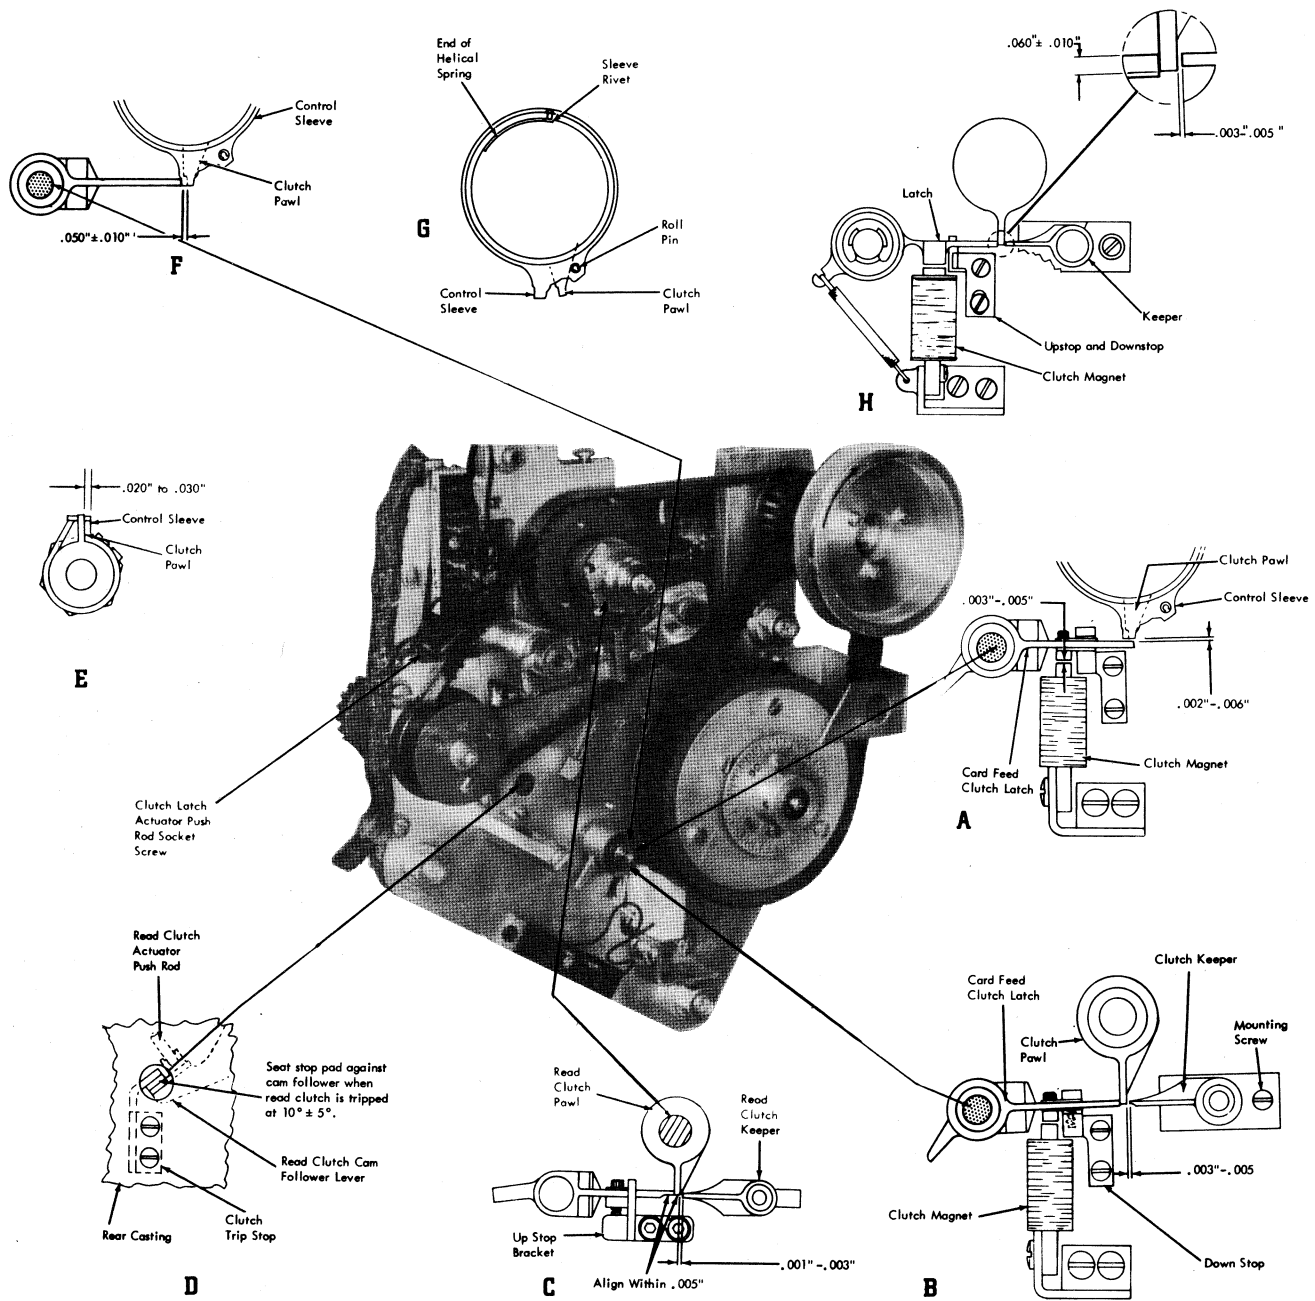

Figure 4-4. Card Feed Clutch and Read Clutch Adjustments
1. With clutch latch arm seated against down stop, adjust down stop, by means of the mounting screws, for a .002" to .006" clearance between clutch latch and clutch control sleeve arm (Figure 4-4, Insert A). When making this adjustment, downward travel of latch armature assembly should strike the downstop; not the magnet cores.
2. With clutch latch seated against down stop, position clutch magnet assembly for .003" to .005" clearance between magnet core and clutch latch arm (Figure 4-4, Insert A).
3. With card feed clutch latched, use mounting screw to position clutch keeper for .003" to .005" clearance between keeper and clutch pawl (Figure 4-4, Insert B).
slowly by hand to unwind the clutch spring (Figure 4-4, Insert F).
1. Position upstop for .060"  $\pm$  .010" overlap of the clutch latch on the clutch pawl (Figure 4-4, Insert H).
5. Adjust clutch spring clamp for .050"  $\pm$  .010" clearance between clutch pawl and end of the clutch latch. The CF clutch spring clamp is fastened to the clutch pawl by two screws. When making this adjustment, the arm on the control sleeve should be in contact with the end of the clutch latch, and the clutch keeper should be pivoted out of contact with the clutch pawl. The clutch input pulley (pulley hub if pulley is removed) should also be rotated slowly by hand to unwind the clutch spring (Figure 4-4, Insert F).
2. Slip control sleeve over helical spring and position sleeve so that roll pin follows and is in contact with clutch pawl (Figure 4-4, Insert G).
10. Run machine for about five minutes, then check the .050" clearance between clutch pawl and clutch latch (Figure 4-4, Insert F). Readjust if necessary.
1. With CF and read clutches latched, position read clutch up-stop bracket so end of the shock mounted section of the latch is aligned within .005" to bottom surface of clutch pawl (Figure 4-4, Insert C).
mounting nut, to obtain a .001" to .003" clearance between keeper and clutch pawl (Figure 4-4, Insert C).
3. With CF and read clutches latched, turn read clutch latch actuator push rod socket screw until read clutch latch just starts to move, then back off screw 1/2 turn. Trip CF clutch and turn CF clutch shaft by hand. Observe time on CF index when read clutch engages. It should be  $10^{\circ} \pm 5^{\circ}$ . If it is not, recheck adjustment No. 1. If adjustment No. 1 checks remake clutch push rod socket screw adjustment (Figure 4-4, Insert D).
4. Adjust the read clutch cam follower stop pad to seat against read clutch cam follower lever when read clutch is tripped at  $10^{\circ} \pm 5^{\circ}$ . The lever should clear the stop pad at  $60^{\circ} \pm 5^{\circ}$  (Figure 4-4, Insert D).
5. Trip feed clutch and crank until clutch pawl is in an upward position (Figure 4-4, Insert E).
6. Adjust clutch spring clamp so distance between edge of control sleeve and clutch pawl is .020" to .030" (Figure 4-4, Insert E).